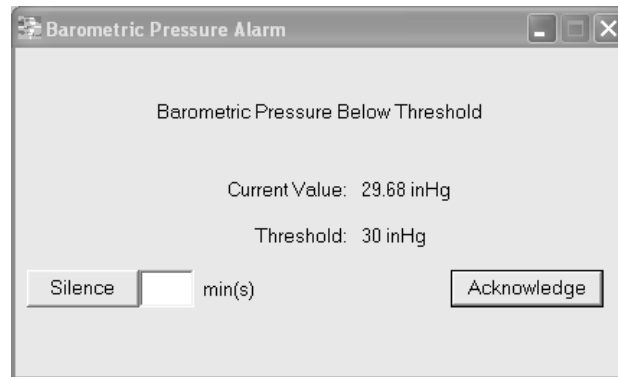

Figure 71. Alarm Notification window
**Alarm Notification** (see Figure 71)